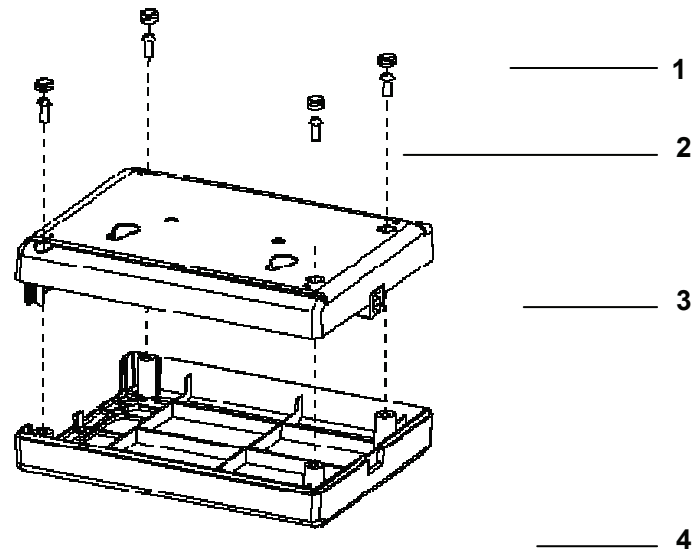

Figure 4-44 Removing Video and Audio Extension Module
- 1) As shown in Figure 4-44, use tweezers to take out four connector enclosure screw caps (use care not to scratch the enclosure);